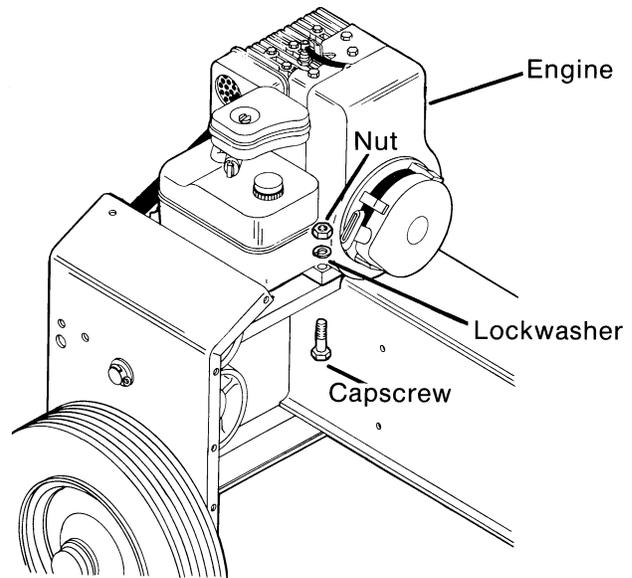

FIG. 10
- C. Remove hardware securing engine to main frame and remove engine. (Fig. 10)
- D. To replace engine, reverse above procedure (engine mounting capscrews should be installed from bottom up, torque capscrews 18-22 ft./lbs). (Fig. 10)